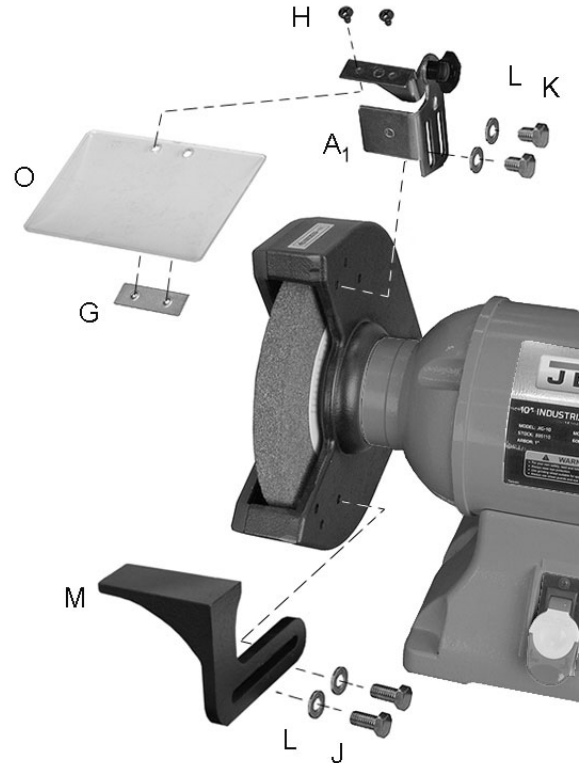

Figure 6: guards and tool rests
Refer to Figure 6.
**Note:** There is a *left* and a *right* tool rest. Refer to Figure 6 for proper orientation.
4. Install the left tool rest (M) by inserting two 3/8" x 3/4" hex cap screws (J) through two 3/8" flat